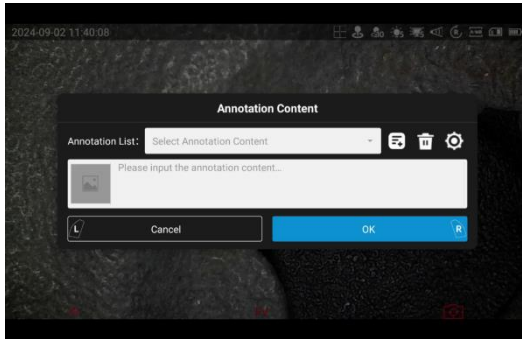

Figure 8-20
When the annotation is “YES”, click the white flag in live image mode, the annotation window will pop up (as shown in Figure 8-20).
3. Click “New Stream” and enter the URL: rtsp://192.168. 43 . 1 :1234 , click Enter, and wait for connection (as shown in Figure 8-20).